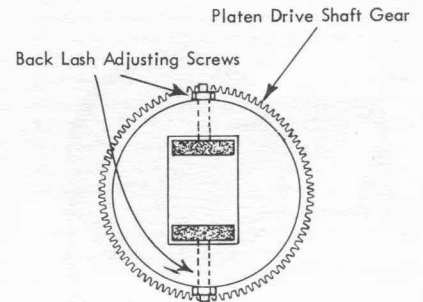

Figure 88. Platen Drive-Shaft Gear
7. Tighten the drive-bushing adjusting screws to obtain the minimum amount of backlash between the platen drive shaft and drive bushing that allows the drive shaft to slide freely. Equalize the adjustment between the two screws (Figure 88).